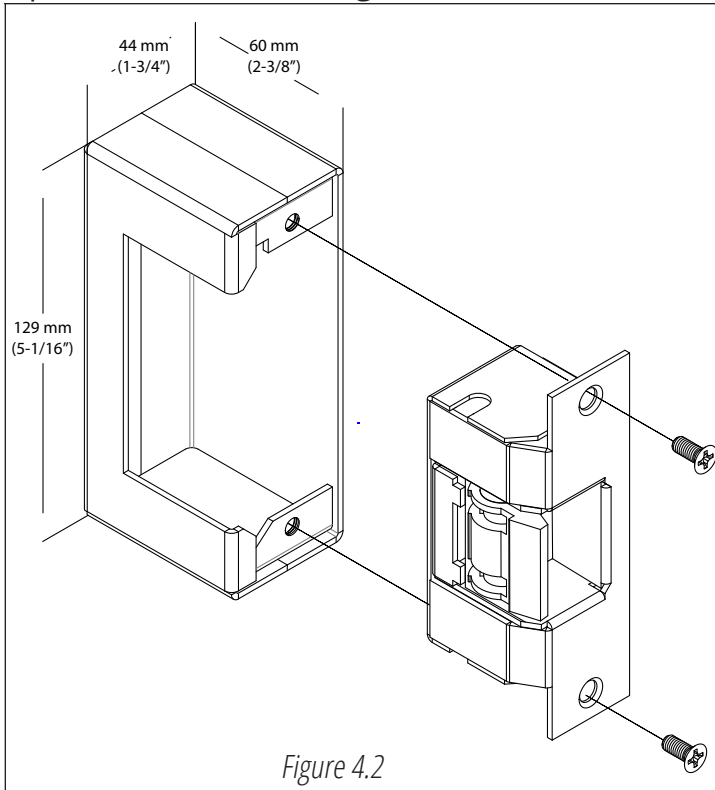

Figure 4.2
11. Secure the strike inside the box with the help of supplied #12 - 24 x 1/2" machine screws (see figure 4.2).